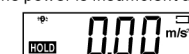

Fig. 7
7. If the symbol " " occurs at upper right corner of LCD when the meter starts up, it demonstrates that the battery is on the verge of out of power. If " " occurs, as figure 7 displays, you need replace 2 new batteries, in case that numerical reading is inaccurate and that the meter cannot be switched on.